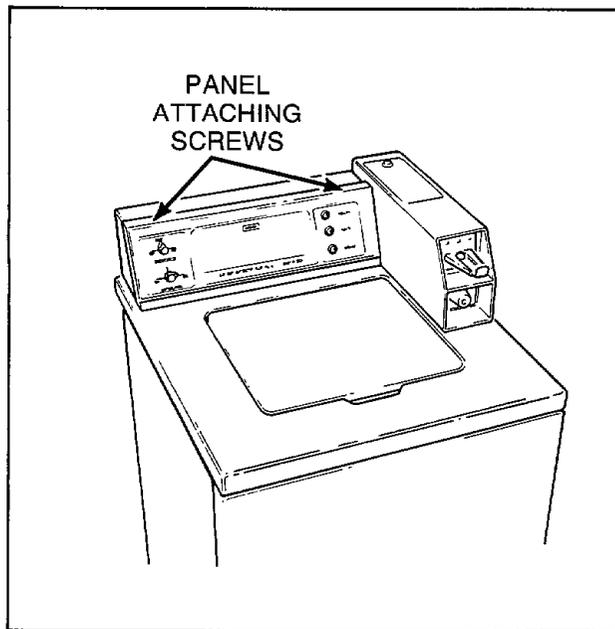

Figure 1
1. CONTROL PANEL (Refer to Figure 1)
- c. Remove two control panel attaching screws, *Figure 1*, and lift assembly off panel support.